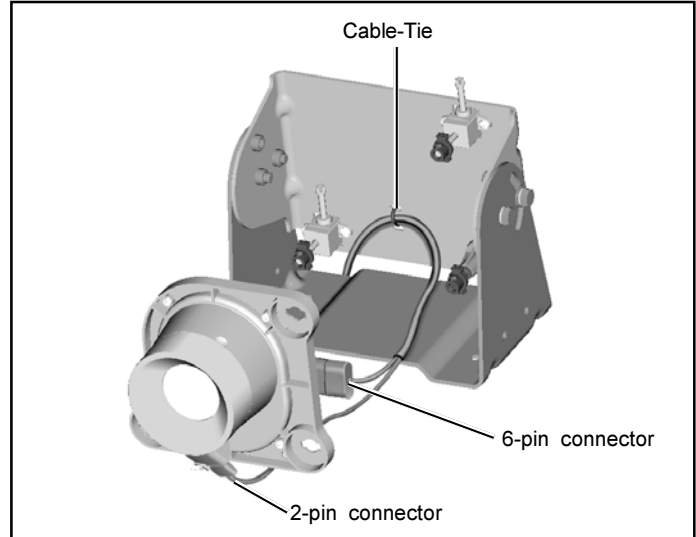

Figure 8 Connecting the Camera Harnesses
- Pull the camera harness through the opening between the camera bracket(5) and mounting bracket(10).
- Plug the 2-pin connector of the camera harness into the window heater. Refer to Figure 8.
- Plug the 6-pin connector of the camera harness into the camera connection. Refer to Figure 8.
- Position the camera onto the factory-installed aiming assemblies. Refer to Figure 8.